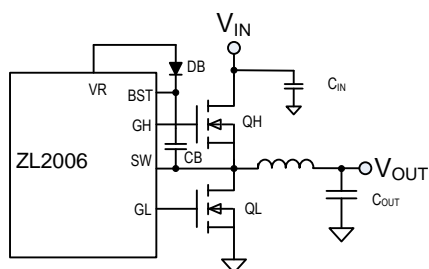

Figure 6. Synchronous Buck Converter
Figure 6 illustrates the basic synchronous buck converter topology showing the primary power train components. This converter is also called a step-down converter, as the output voltage must always be lower than the input voltage. In its most simple configuration, the ZL2006 requires two external N-channel power MOSFETs, one for the top control MOSFET (QH) and one for the bottom synchronous MOSFET (QL). The amount of time that QH is on as a fraction of the total switching period is known as the duty cycle D , which is described by the following equation:
Typically, buck converters specify a maximum duty cycle that effectively limits the maximum output voltage that can be realized for a given input voltage. This duty cycle limit ensures that the lowside MOSFET is allowed to turn on for a minimum amount of time during each switching cycle, which enables the bootstrap capacitor (CB in Figure 6) to be charged up and provide adequate gate drive voltage for the high-side MOSFET. See Section 5.2, “High-side Driver Boost Circuit,” for more details.
The gate drive voltage for the high-side MOSFET driver is generated by a floating bootstrap capacitor, CB (see Figure 6). When the lower MOSFET (QL) is turned on, the SW node is pulled to ground and the capacitor is charged from the internal VR bias regulator through diode DB. When QL turns off and the upper MOSFET (QH) turns on, the SW node is pulled up to V_{DD} and the voltage on the bootstrap capacitor is boosted approximately 5 V above V_{DD} to provide the necessary voltage to power the high-side driver. A Schottky diode should be used for DB to help maximize the high-side drive supply voltage.